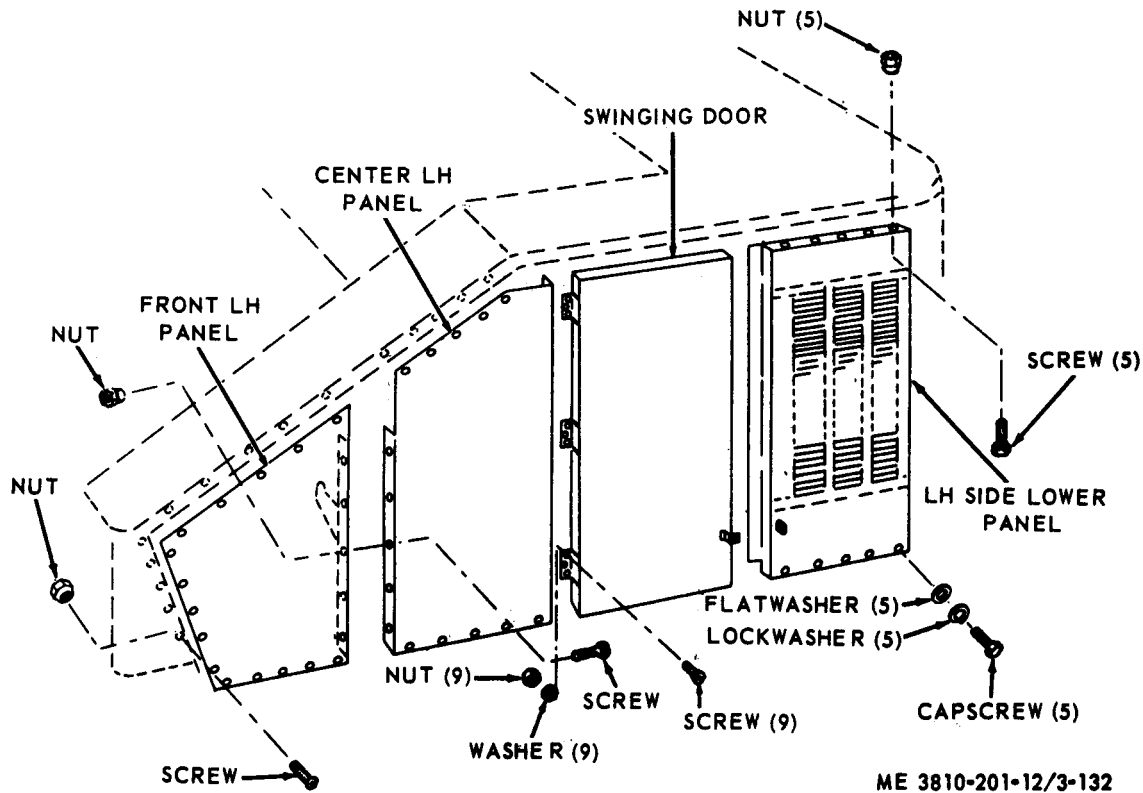

Figure 3-132. Panels and swinging door, removal and installation.
- (1) Unhook latch.
- (2) Refer to figure 3-132, remove nine nuts, washers and screws, then remove swinging door.
- (3) Install in reverse order.
- (1) Refer to figure 3-132 and remove center panel from left side.
- (2) Install in reverse order.
(1) Refer to figure 3-132 and remove louver panel.
(2) Install in reverse order.